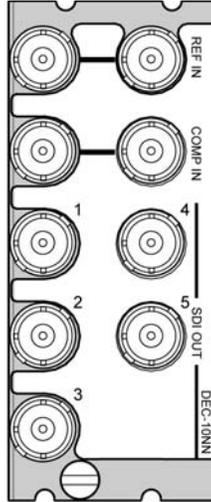

Figure 2.2 DEC-10NN-DRP Rear Panel
- DEC-10NN-DRP Double Rear Panel (see figure 2.2)